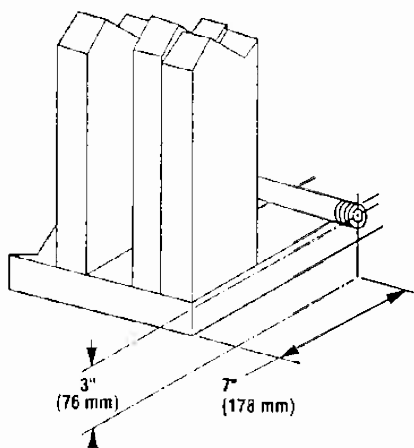

Figure 7
Step 2. Route a $\frac{1}{2}$ " (13 mm) gas line along the left or right side framing (Figure 7).